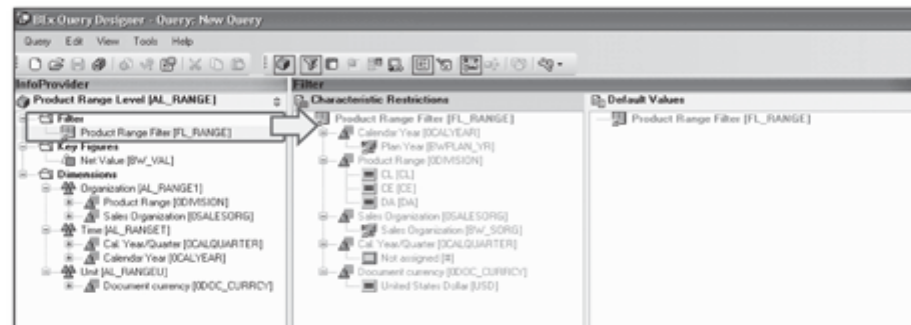

Figure 12.73 Filter for Input Ready Query
2. In the query definition screen, you can see that the planning filters defined in the Planning Modeler are available under the Filter folder (Figure 12.73). Drag and drop the filter in the query definition.